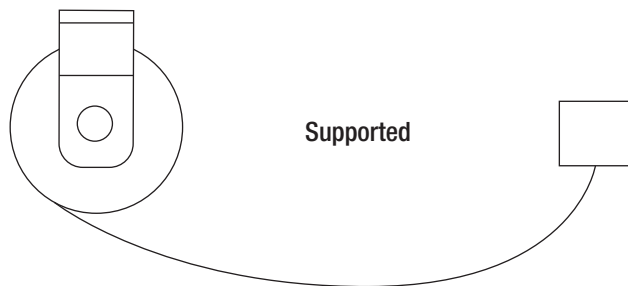

Figure 3-2
3.0.2.1 The reel is mounted on a stationary object and is required to drag the cable over the surface to the reel. The cable is supported by the ground or some type of cable tray. A ball stop may be required. **See Figure 3-2.**